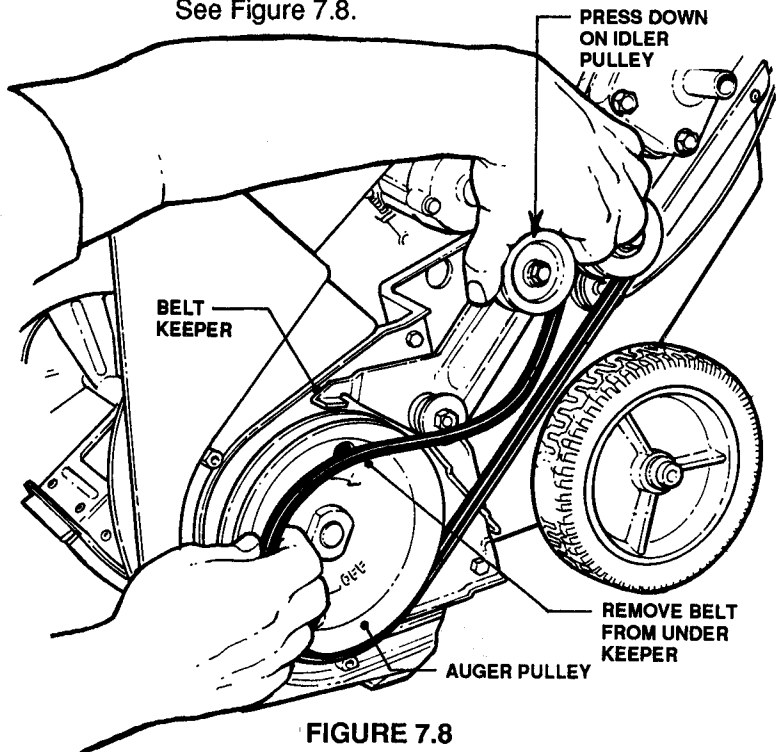

FIGURE 7.8
- (1) Remove Belt Guard and R.H. Cover.
- (2) Roll Drive Belt off bottom of Auger Pulley.
- (3) Press down on Idler Pulley and remove Drive Belt from under Keeper. See Figure 7.8.